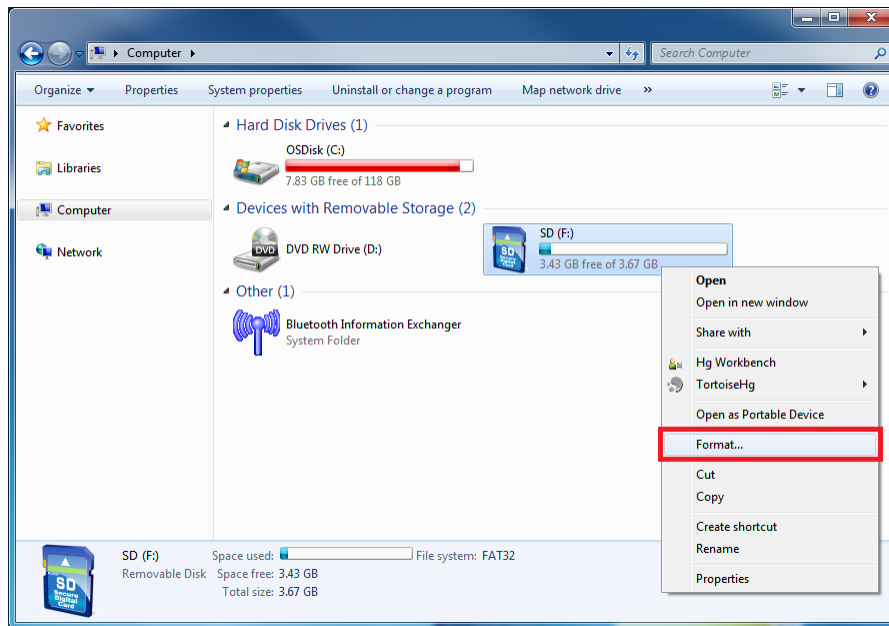

Figure 2-58. Windows 7 SD Card Right-Click Menu
2. Right-click on the SD card from My Computer as shown in Figure 2-58 and select "Format..."